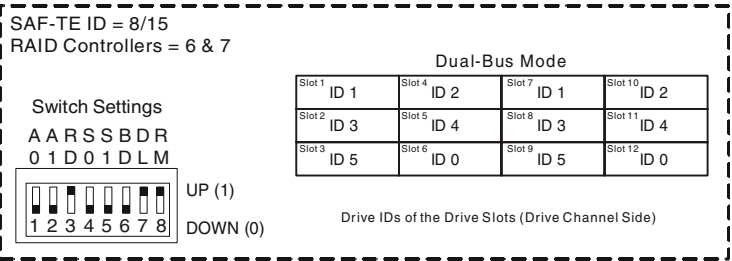

Figure C-18 Switch Setting – Primary RAID Enclosure
- 2 Locate the switches on each card and set them as shown in Figure C-18.